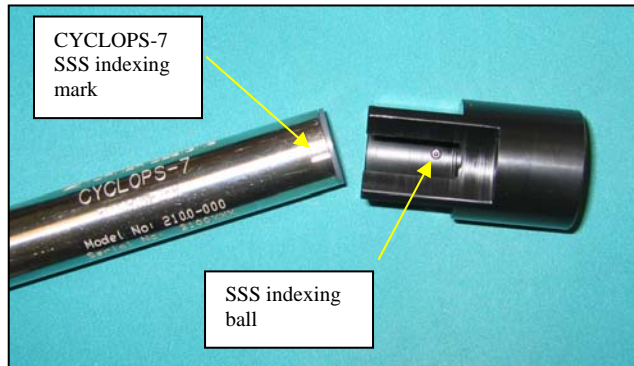

Figure 3
1. Before installing the SSS you must ensure that the optical surface of the CYCLOPS-7 is completely clean and dry. The SSS is indexed and it must be installed so that the indexing is precisely aligned for proper use (see *Figure 3*).